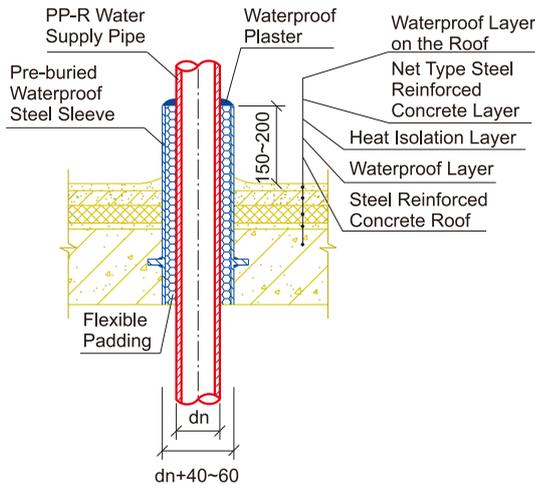

Fig.14 Pipe Crosses Steel Reinforced Concrete Pool (or water tank) Unit: mm
3.6 When the water inlet, outlet and drain to empty pipe or other pipes cross the steel reinforced concrete pool (or water tank) , the crossing pipe sections should be used coated steel-plastic composite pipe or stainless steel pipe with function of corrosion resistance from inner and outer side. The construction details have been showed in figure 14.